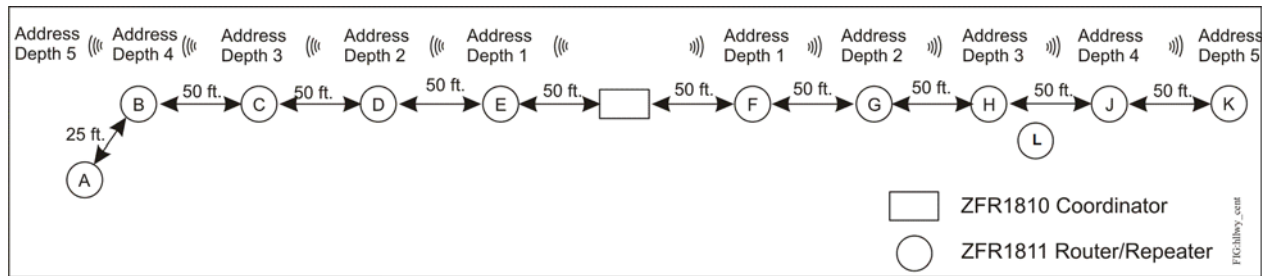

Figure 1: Address Depths
- When a wireless mesh network forms, each device receives an address from its parent. The addressing algorithm can extend up to 5 addresses in depth from the coordinator. Refer to Figure 1.